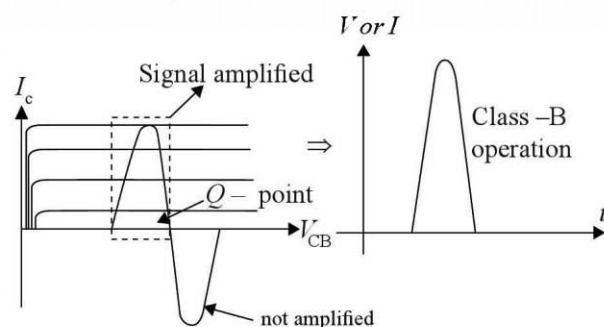

Fig. 19.15 Class B amplifier
**Class B amplifier** As shown in Fig. 19.15 Q-point in class B amplifiers is in cut off region. Therefore, they amplify only half the signal  $0$ – $180^\circ$  or  $180$ – $360^\circ$ .